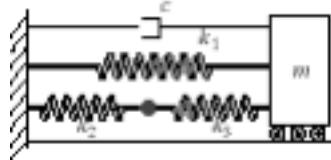

Figure P1.72
- 1.72** Calculate the natural frequency and damping ratio for the system in Figure P1.72 given the values $m = 10 \text{ kg}$, $c = 100 \text{ kg/s}$, $k_1 = 4000 \text{ N/m}$, $k_2 = 200 \text{ N/m}$ and $k_3 = 1000 \text{ N/m}$. Assume that no friction acts on the rollers. Is the system overdamped, critically damped or underdamped?